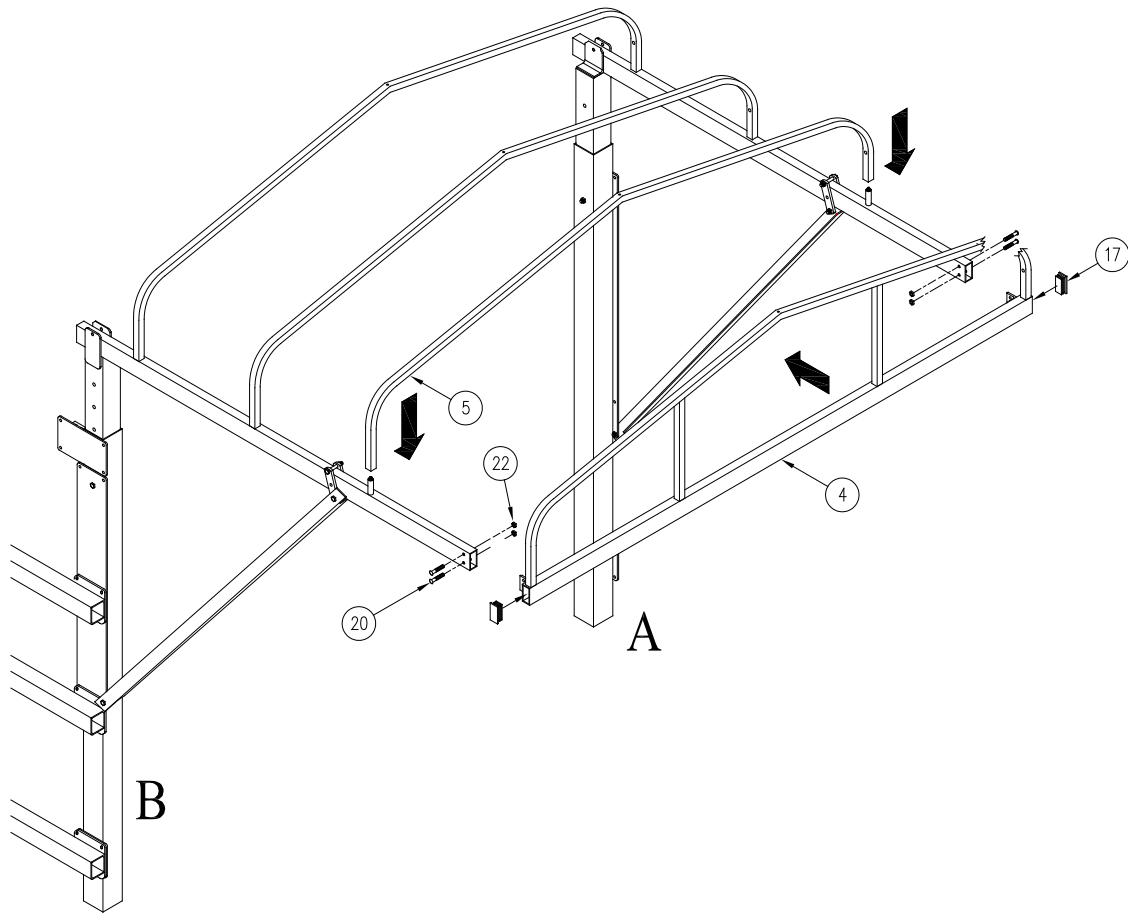

Figure 2-5.
5. Refer to **Figure 2-5**. Attach each canopy end cap to the side stringers using hardware shown for each corner connection. Before tightening hardware, square the canopy frame by placing a carpenter or combination square into each corner and positioning canopy stringers and end caps to provide a 90 degree corner joint. Tighten hardware to lock into position.